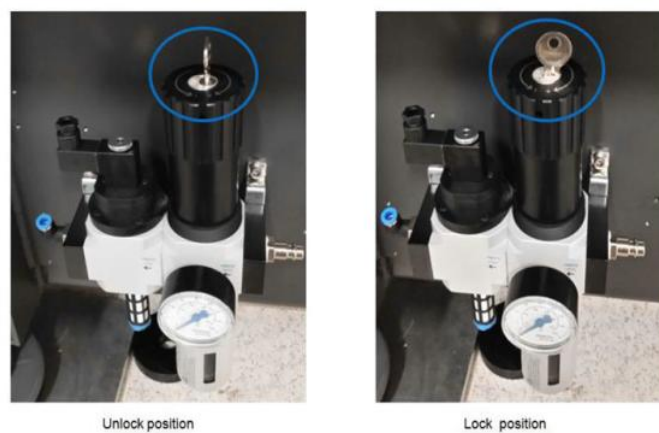

Figure 18 Air Pressure Regulator Locking Mechanism
10. Turn the Festo Key to “Lock Position” as Figure 18.